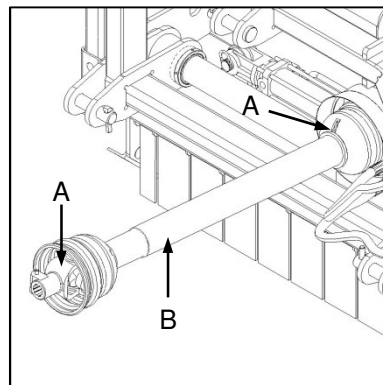

Fig. 7
- ✔ Apply grease to the universal joints (Fig. 7-A) and telescopic tubes (Fig. 7-B) of the PTO shaft.
- ✔ Ghries die kruiskoppelings (Fig. 7-A) en teleskopiese buise (Fig. 7-B) van die kragaftakkeras.